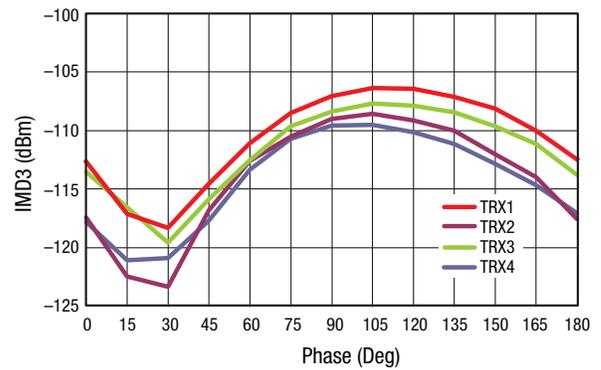
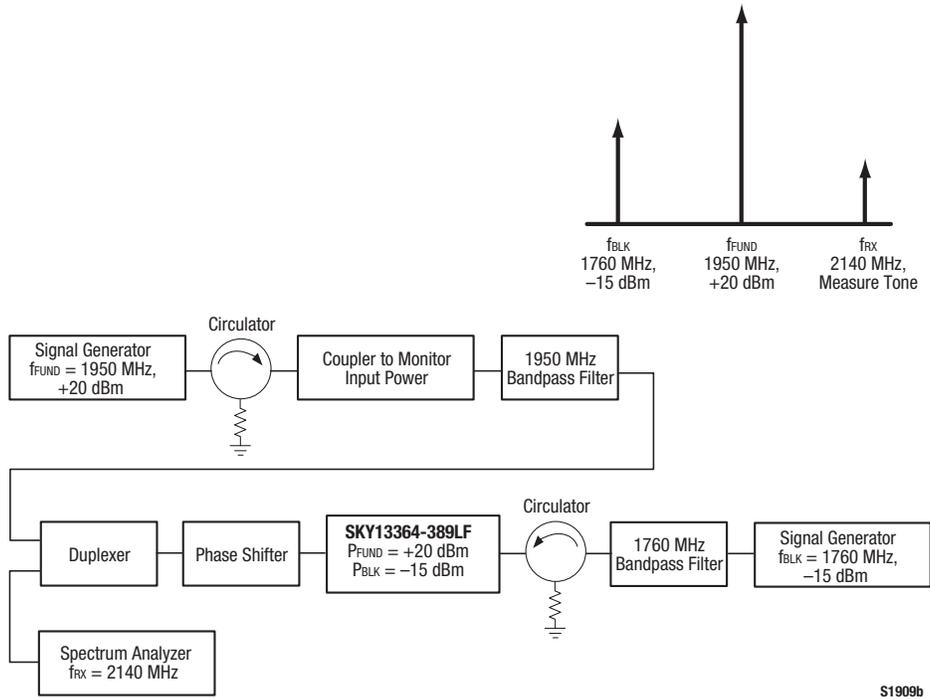

Figure 12. 3rd Order Intermodulation Distortion vs Phase, TRX Ports ($P_{FUND} = 1.95$ GHz, $f_{BLK} = 1.76$ GHz, $f_{rx} = 2.14$ GHz)
Figure 15. 3rd Order Intermodulation Test Setup
Figure 15 illustrates the test setup used to measure data for Figure 12. This industry standardized test is used to simulate the WCDMA Band 1 linearity of the antenna switch. A +20 dBm Continuous Wave (CW) signal, P_{FUND} , is sequentially applied to the TRX1 through TRX4 ports, while a -15 dBm CW blocker signal, P_{BLK} , is applied to the ANT port.